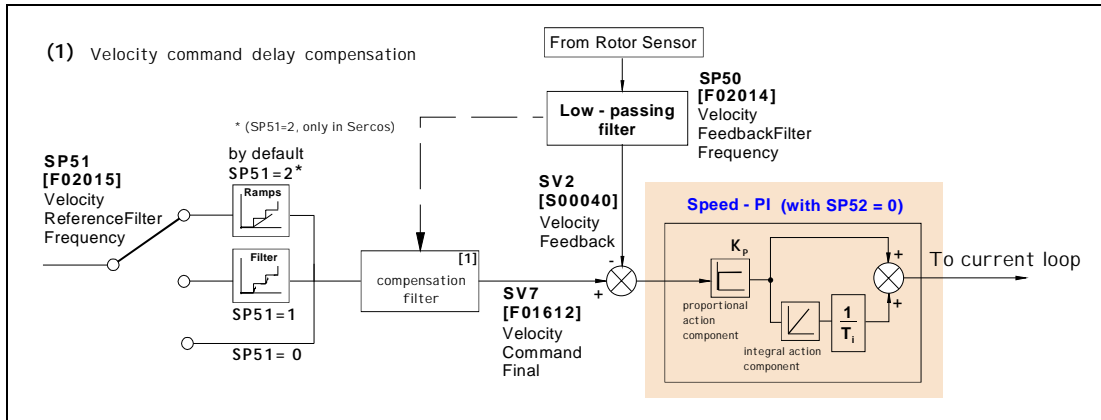

fig.11 Speed PI.
The velocity loop basically consists of a proportional - integral (PI) controller shown in the fig.11. The operation of this PI is determined by two constants, The operation of this PI is determined by two constants, K_p given by parameter **[SP1]** and T_i given by parameter **[SP2]**.